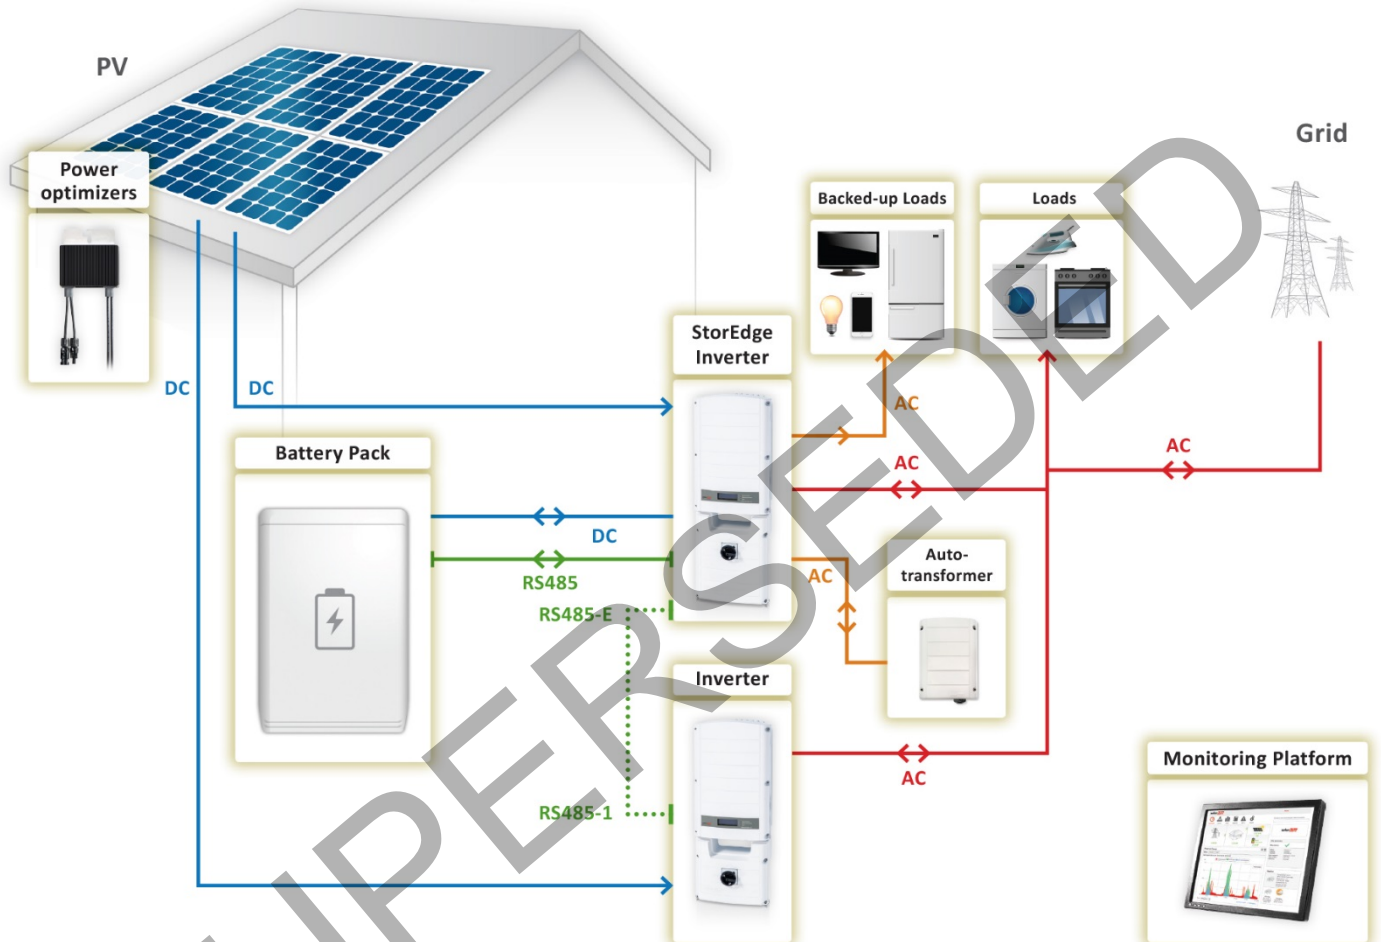

Figure 17: Backup Power Only - Large residential PV systems
- 1 If needed, install the RS485 Plug-in in the inverter connected to the battery (the StorEdge inverter in Figure 17). If there is an RS485-2 port in the inverter, use it instead of the expansion kit. *The RS485-E port in the following instructions refers either to the Expansion port or to the RS485-2 port.*